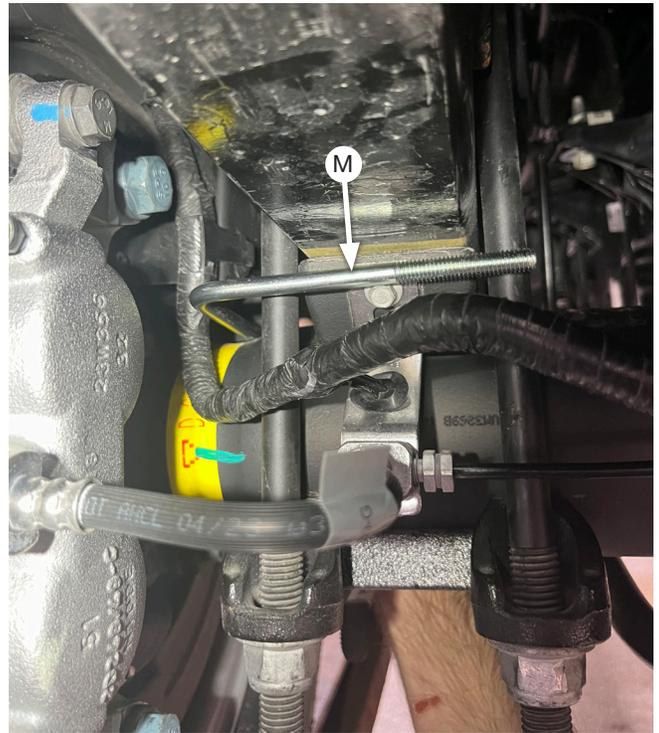

Fig. 40
1. With the vehicle supported by safety stands, drop the axle or raise the body so that the assemblies can be put into position in between the axle and frame. Set the driver's (left) side and passenger's (right) side assemblies into position so that the lower bracket sits on the axle. Install the U-bolt (M) around the leaf spring spacer, as shown in Figure 40. This must be done before installing the assemblies.